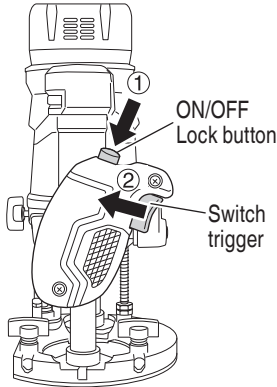

Fig. 26
This product is equipped with an ON/OFF Lock button to prevent any inadvertent switch trigger operation. To activate the tool, ① press down on the ON/OFF Lock button and ② draw the switch trigger. (Fig. 26)